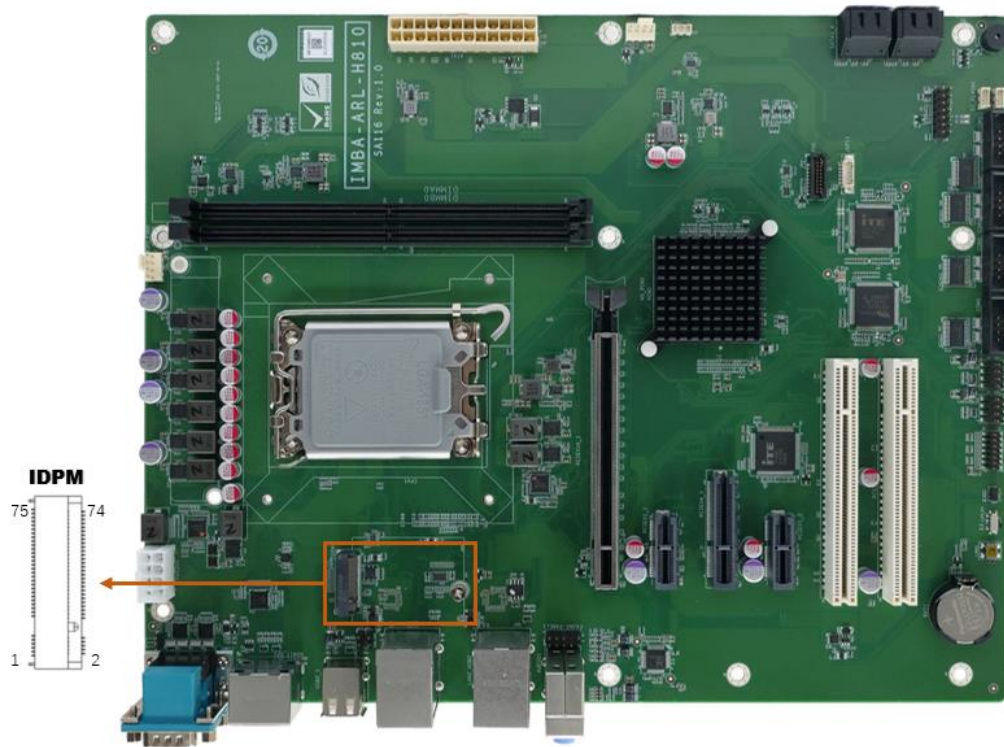

Figure 3-22: IEI iDPM Slot Location
- CN Location:** See **Figure 3-22**